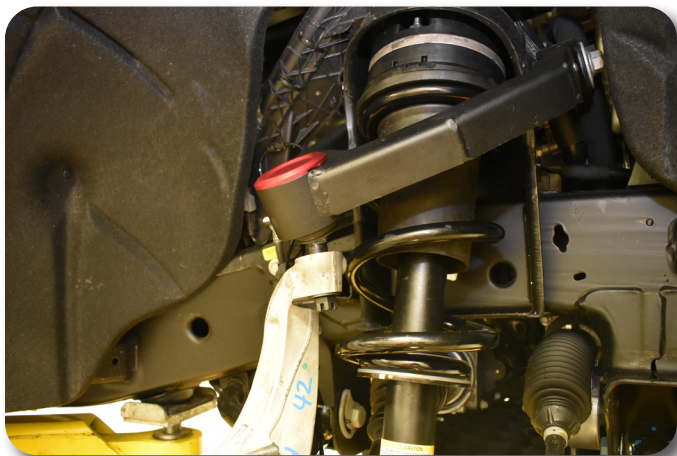

Figure 19
27. Reattach the upper ball joint to the knuckle **Figure 19**. Use the provided 10mm nylock nut in bolt pack 874. Use the jack to support the lower control arm and torque the upper ball joint nut to 26 ft-lbs with the first pass and 60-75 degrees on the final pass.